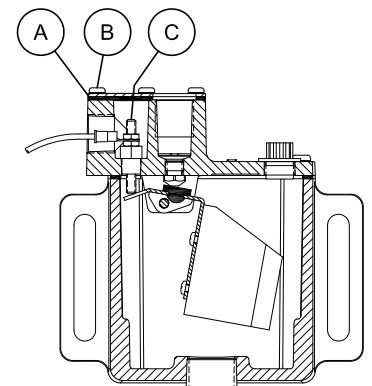
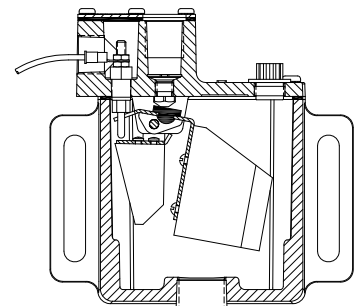

FIGURE 1
FIGURE 2
**SWITCH ADJUSTMENT (K512 / K512-TB):** Switch adjustment is not recommended. Improper setting may result in damage to engine. If adjustment is necessary, refer to FIGURE 1 and the following instructions:
- Remove the switch terminal cover plate (A) by unscrewing six screws (B).
- Remove wire terminal and hexagon nuts from slotted set screw (C).
- Rotate the slotted set screw (C) clockwise to raise the switch trip point and counterclockwise to lower the switch trip point. (Note: One complete revolution of set screw changes its height 1/32").
**SWITCH ADJUSTMENT (K512HL / K512HL-TB):** Switch is not adjustable. Refer to FIGURE 2.